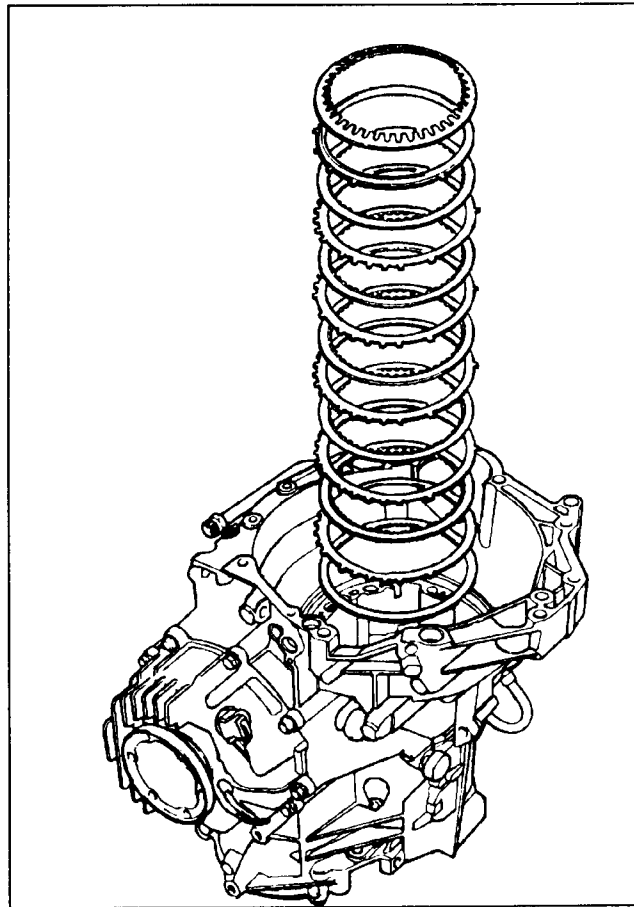

Figure 69
21. Note the direction of the piston return spring them remove it from the case. Note the direction of the pressure plate then remove it from the case. Remove the friction plates, steel plates, and the steel apply plate. and set them aside. (See figure 69).